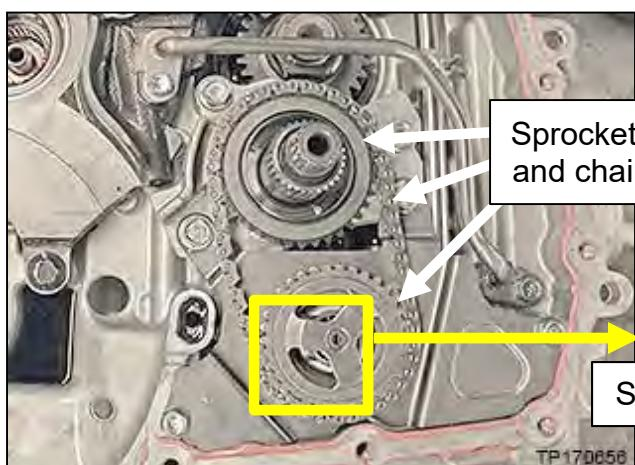
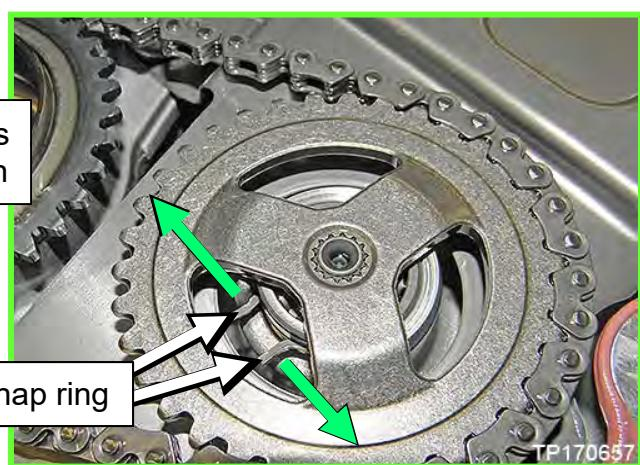

Figure 72
Figure 73
52. Spread the snap ring shown in Figure 72 and Figure 73 then remove both sprockets and the chain.